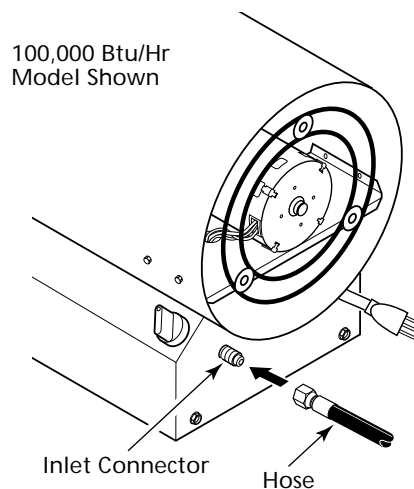

Figure 5 - Hose and Inlet Connector
16. Turn heater on its side to access opening in bottom of base. Connect green wires from motor, transformer, and power cord to heater shell using ground nut (See Figure 5, page 10).